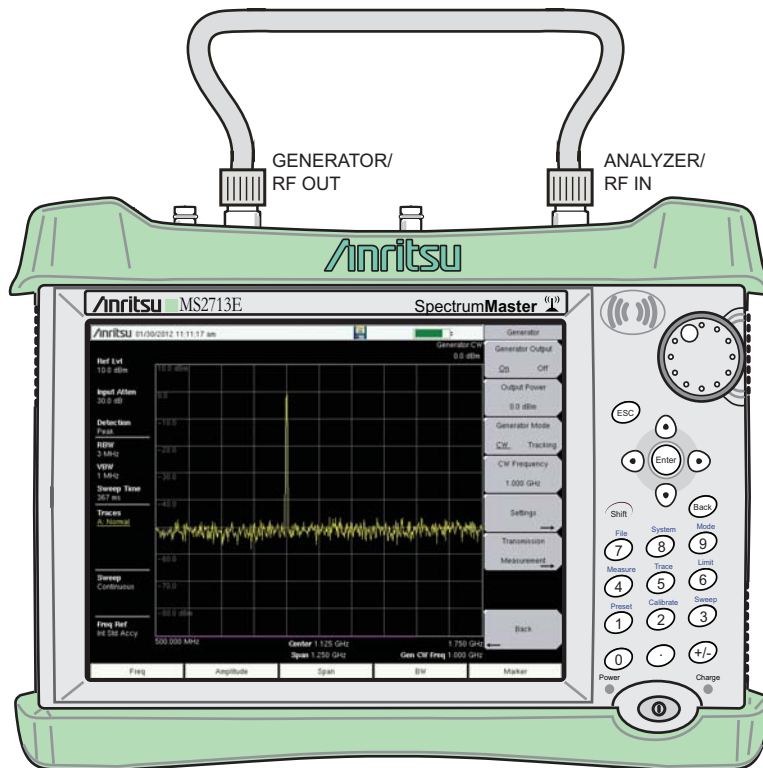

Figure 2-8. Through Cable Setup Example
1. Connect a THROUGH cable between the GENERATOR/RF OUT and ANALYZER/RF In connectors as shown in Figure 2-8